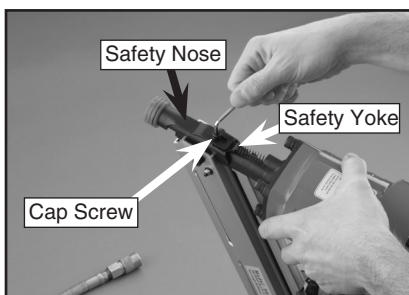

Figure 6. Loosening cap screw for depth adjustment.
2. If the nail is driven too far into the workpiece, loosen the cap screw on the safety nose with a 4mm wrench, as shown in **Figure 6**.
3. Slide the safety nose (**Figure 6**) toward the nailer body to drive nails deeper, and away from the body to drive nails less deep.